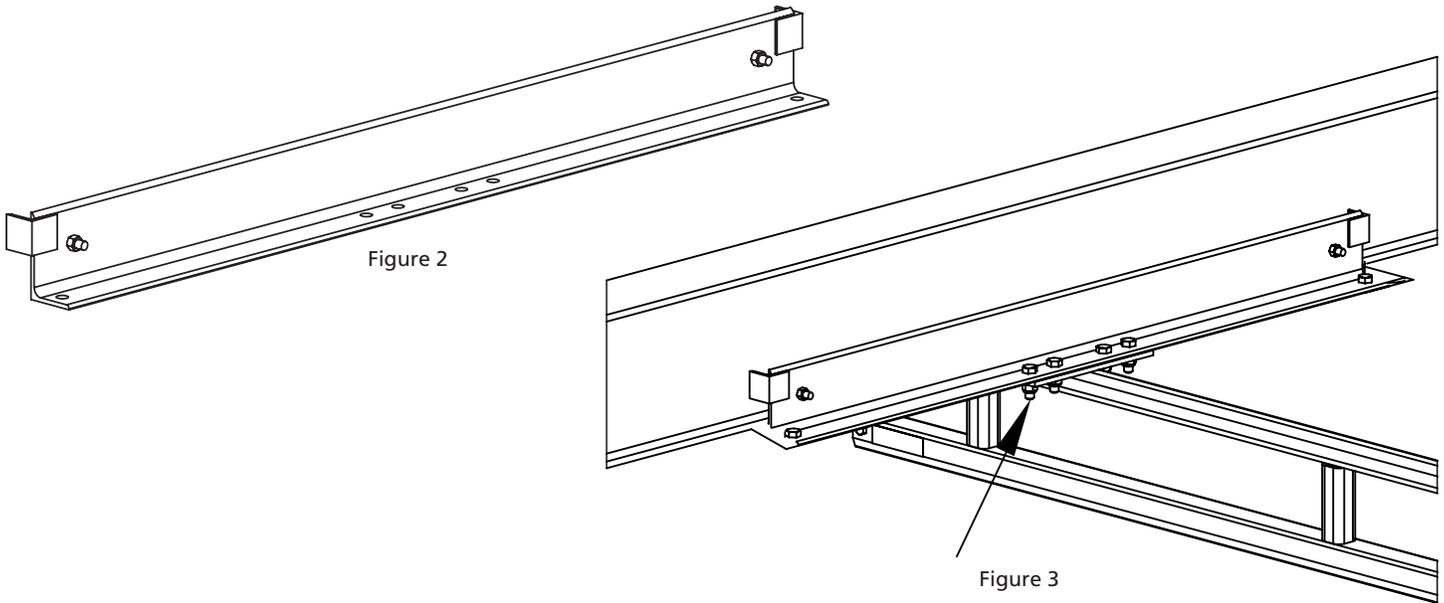

Figure 1
2. Line up the bridge perpendicular beneath the crane, per **Figure 1**, where it will be attached ensuring that the metal bracket on the bridge is facing up towards the I-beam.